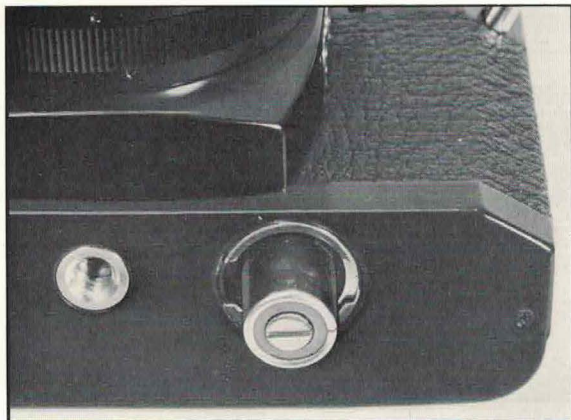

Fig. 1
2. Place the 6V silver oxide battery with the minus (-) side facing upwards as indicated by the symbol in the battery chamber (Fig. 1).